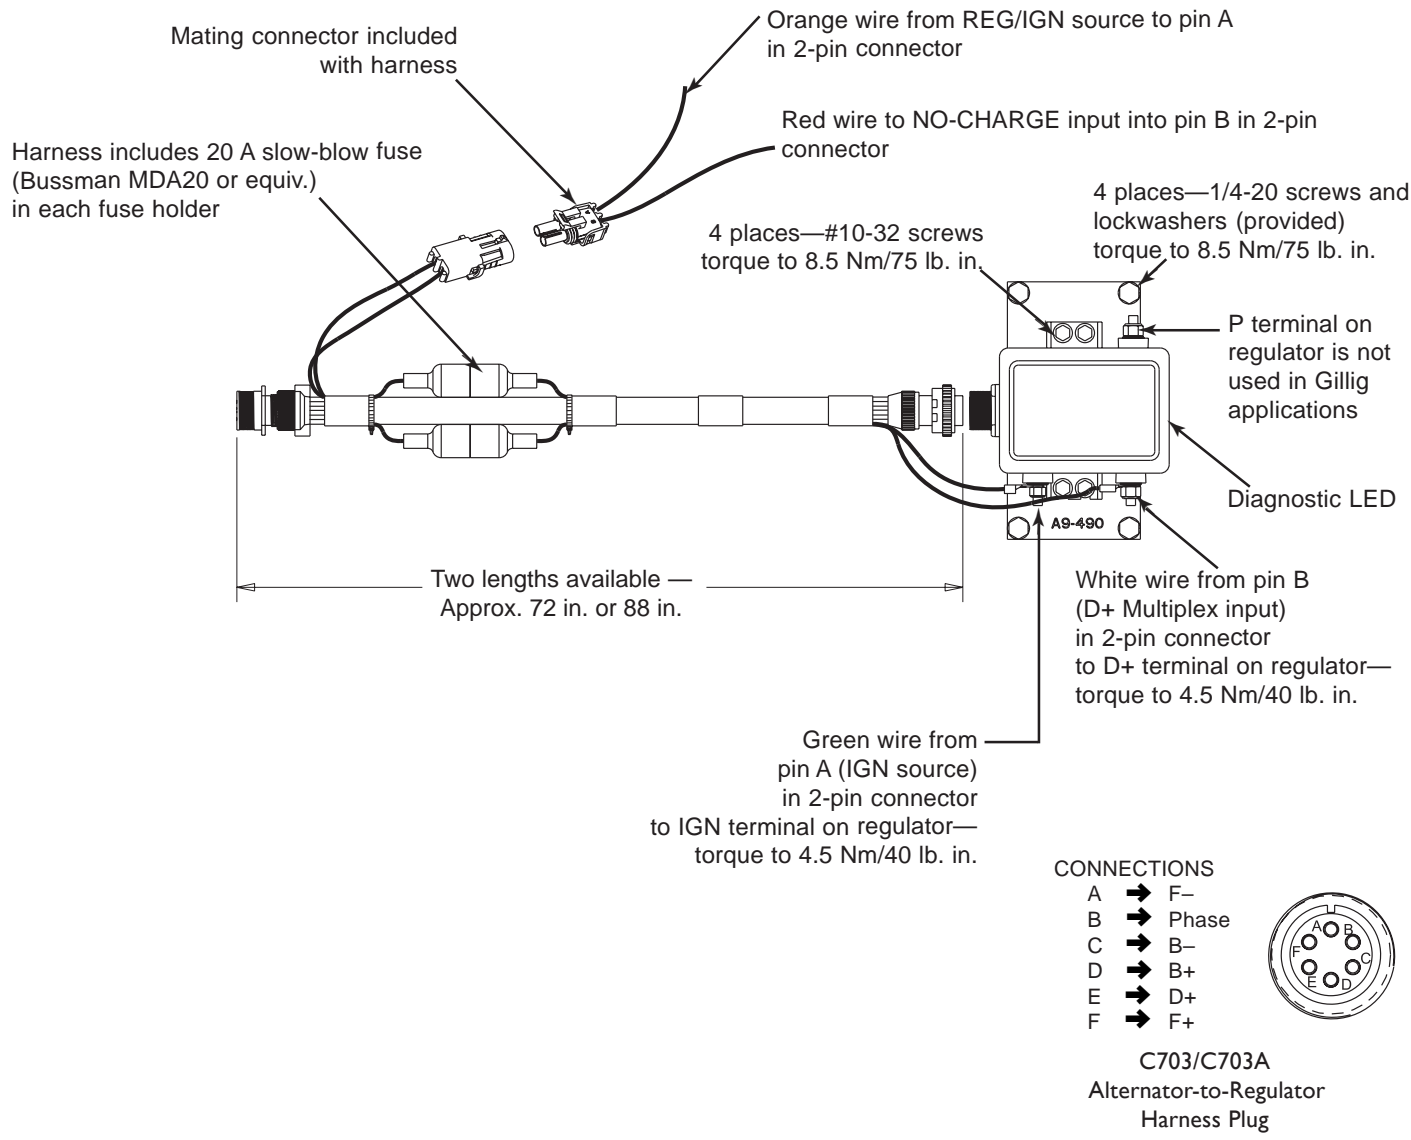

Figure 2 – A2-321 Regulator Remote Mount with Extended Alternator Wiring Harness (Two Lengths)
2. A2-321 only: In 6-pin harness connectors, make sure pin A is lined up with notch on connector. See Figure 2.